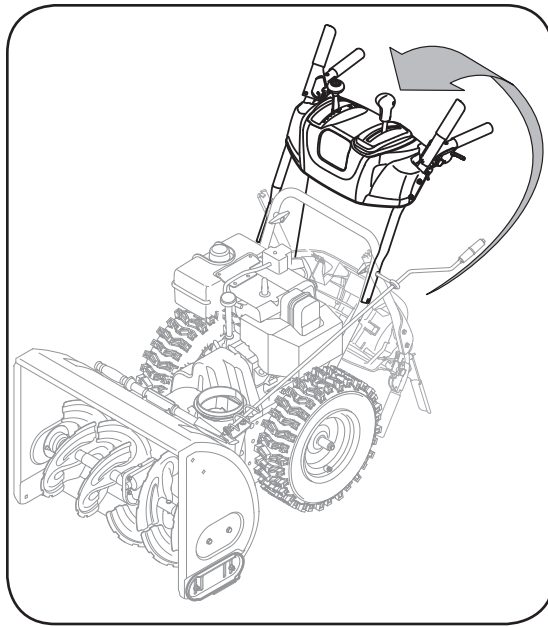

Figure 3-1
1. Observe the lower rear area of the snow thrower to be sure both cables are aligned with roller guides. Pull up and back on the upper handle, align the upper handle with the lower handle. See Figure 3-1.